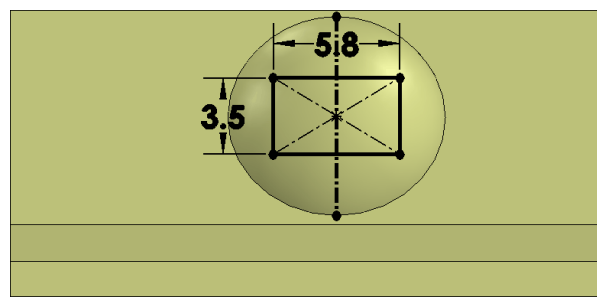

Fig. 45
Step 7. Click **Smart Dimension**  (S) on the Sketch toolbar.
Step 8. Dimension rectangle **3.5 by 5.8**, **Fig. 45**.